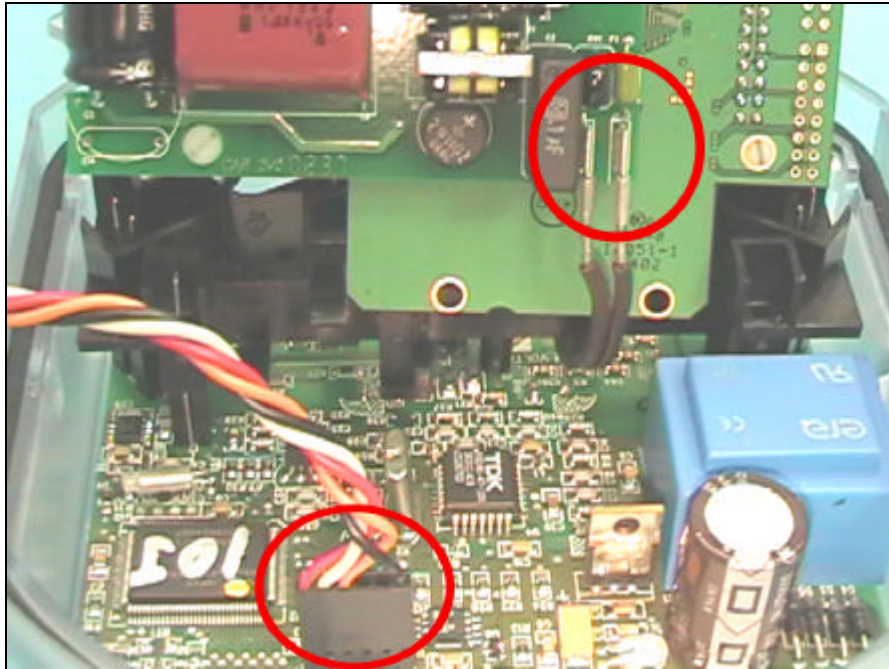

Figure 2a – AC and Data Input Cables
1. Connect the AC input cable between power supply and meter PCB. (See Figure 2a and 2b.)
2. Connect controller module data interface cable to meter PCB. (See Figure 2a.)